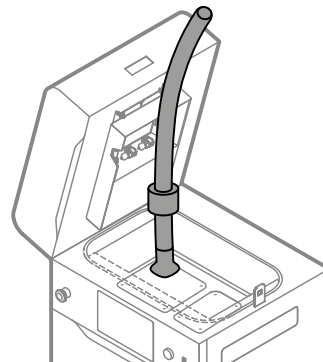

Fig. 12.37 Vacuum powder from Feed Bed.
18. Vacuum powder from the Feed Bed. Use appropriate nozzles (fig. 12.37).